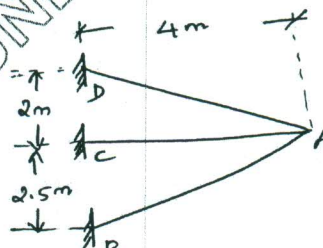

Fig.Q.8
- 8 Analyze the truss by flexibility method member AD is too long by 3mm, AC is too short by 5mm AB is too short by 8mm. Member AB is subjected to an increase in temperature by 25°C . AE is constant for all members. Take $\alpha = 12.5 \times 10^{-6}/^\circ\text{C}$. $AE = 250 \times 10^3 \text{ kN}$. Refer Fig.Q.8. Choose AD as redundant (16 Marks)